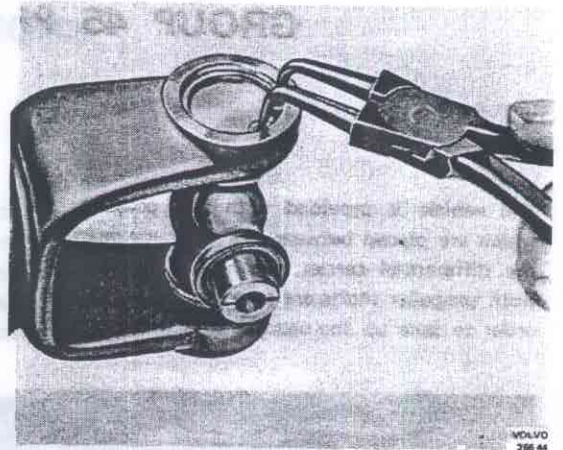

Fig. 45-6. Removing the circlip
2. Remove the circlips securing the needle bearings, see Fig. 45-6.